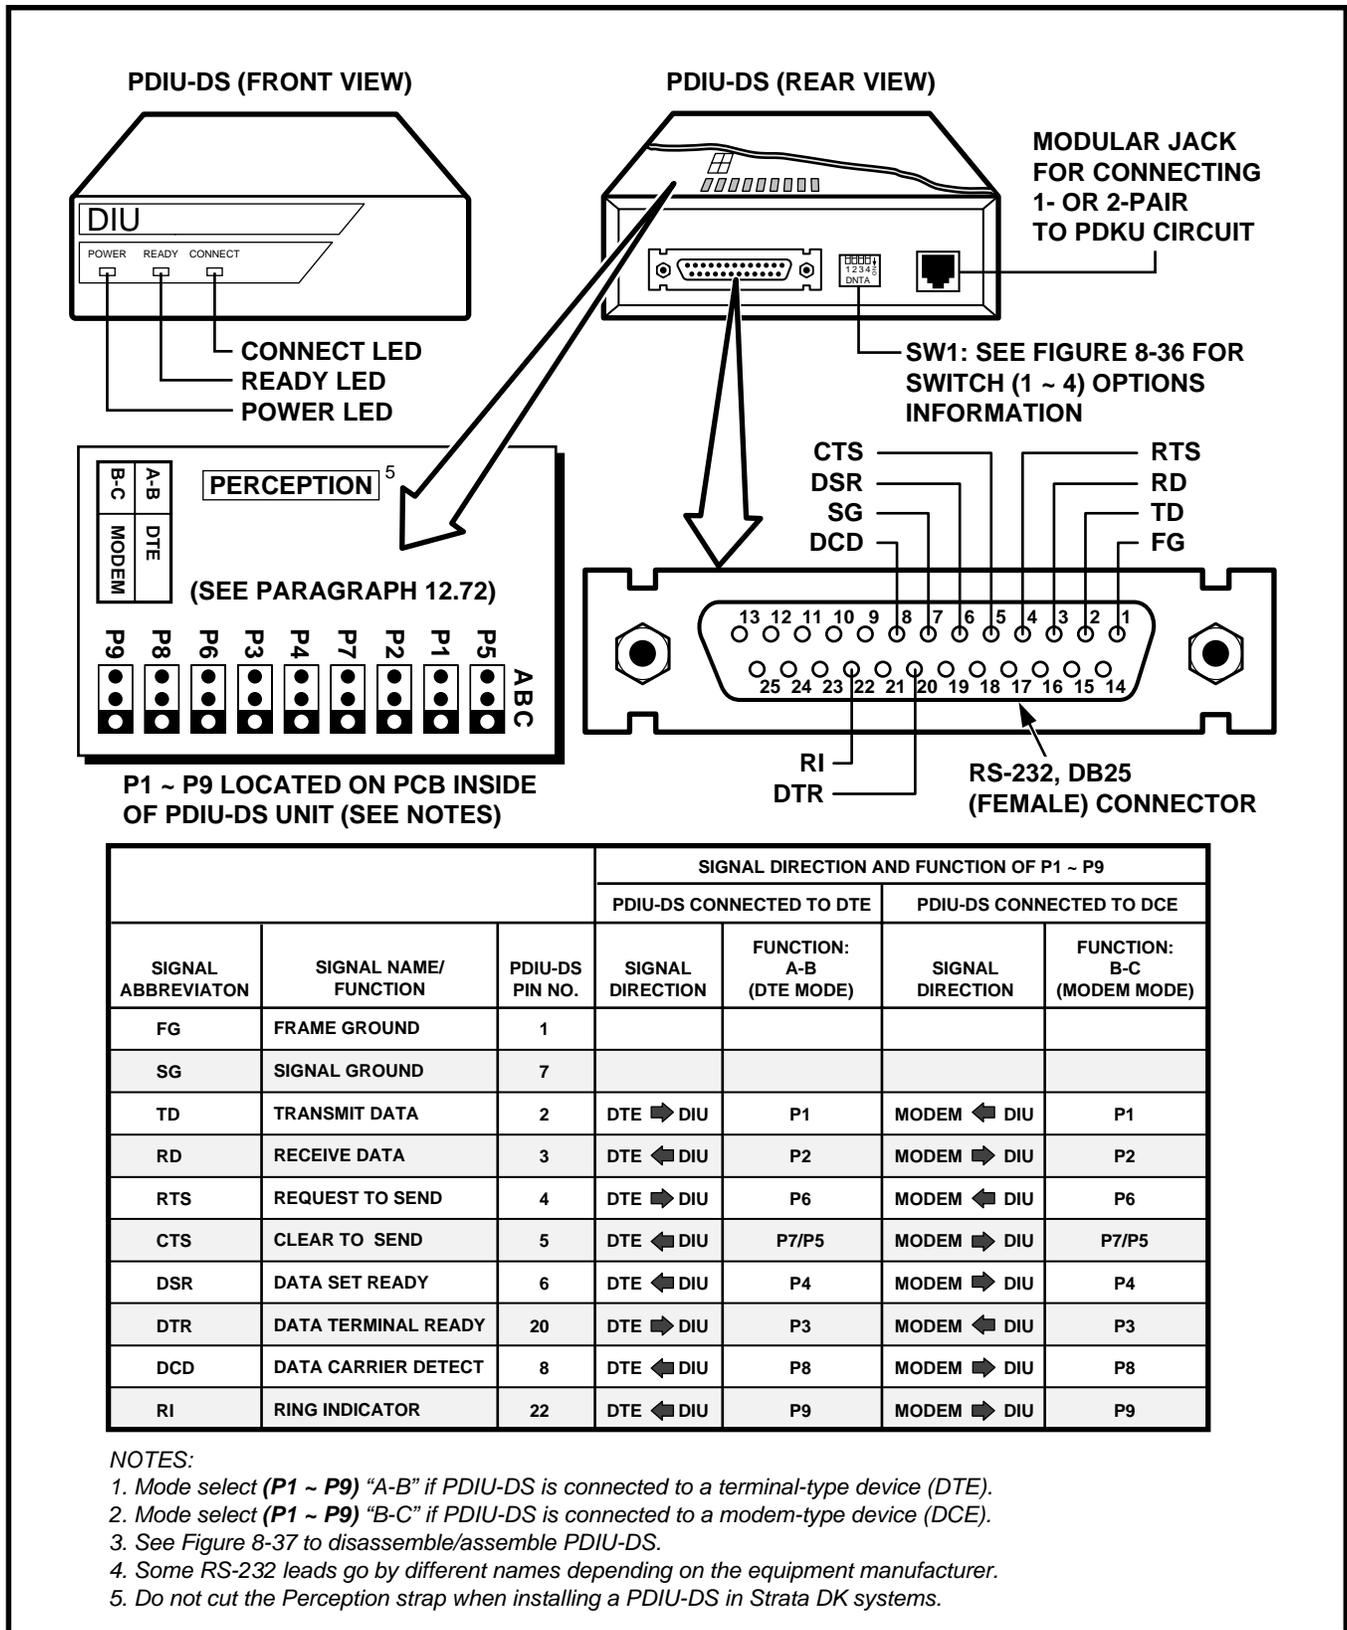

FIGURE 8-35
- 1. The PDIU-DI is always a DCE device; the PDIU-DS may be a DTE or DCE, depending on how its internal jumpers (1 ~ 9) are configured (see Figure 8-35).**
12.31 The PDIU-DI and the PDIU-DS each have a four-control DIP switch which can be configured for signaling options. The switch is located on the bottom of the PDIU-DI, and on the back panel of the PDIU-DS (see Figure 8-35).
- **SW1-3:** The PDIU-DI (or PDIU-DS configured as a DCE) sends the Ring Indicate (RI) signal to the computer to tell the computer (DTE) that the DIU is receiving an incoming call. **SW1-3** should be ON for the DIU to send RI steady, and OFF to send at one second ON/three seconds OFF intervals.
semble the PDIU-DS and configure it to operate like a DTE device by placing the jumper plugs (**P1 ~ P9**) in the "B-C" (MODEM) position. Reassemble the PDIU-DS, and mark "B-C" on the bottom identification label for future reference. (Paragraph **12.70** provides PDIU-DS disassembly/assembly instructions, and Figure 8-35 provides jumper plug information.)
- If the printer is a DTE device: It may not be necessary to disassemble the PDIU-DS, since it comes direct from the factory configured as a DCE device. However, if uncertain, disassemble the PDIU-DS and verify that jumper plugs (**P1 ~ P9**) are in the "A-B" (DTE) position. Reassemble the PDIU-DS and mark "A-B" on the bottom identification label for future reference. (Paragraph **12.70** provides PDIU-DS disassembly/assembly instructions, and Figure 8-35 provides jumper plug information.)
- 1) Configure the PDIU-DS as a DTE device: Disassemble the PDIU-DS and place jumper plugs **P1 ~ P9** in the "B-C" position (MODEM). Reassemble the PDIU-DS and mark "B-C" on the bottom identification label for future reference. (Paragraph **12.70** provides PDIU-DS disassembly/assembly instructions and Figure 8-35 provides jumper plug information.)